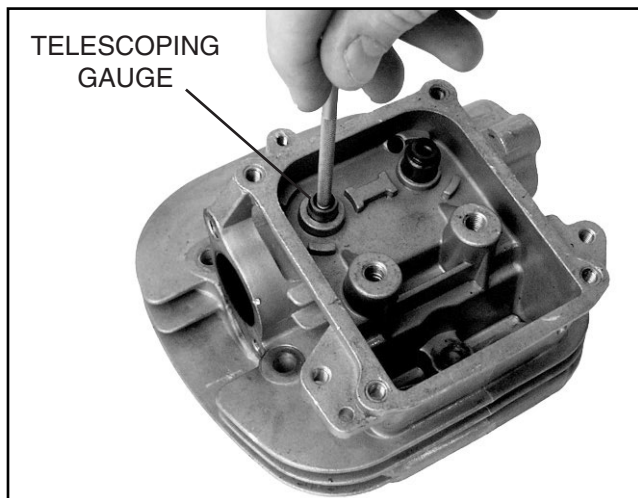

Figure 5-8. Check valve guides
2. Clean the valve guides and measure their I.D. using a split ball bore gauge (Figure 5-8).